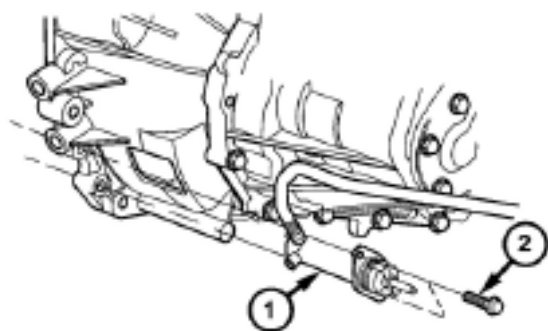
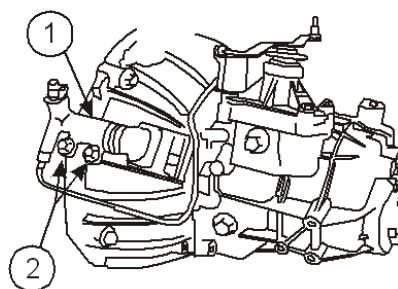

Figure 3-14 Clutch slave cylinder on the transmission
Figure 3-15 Clutch slave cylinder on the transmission
- (2) Remove the battery negative terminal.
- (3) Remove the slave cylinder from the transmission (Figure 3-14 and Figure 3-15).